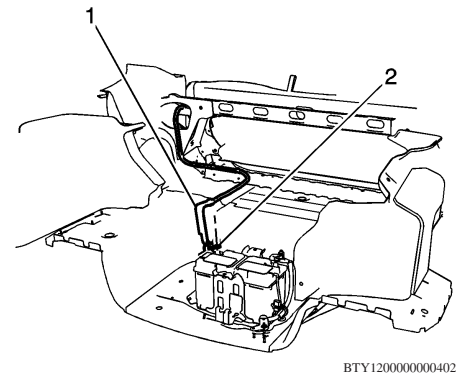

Fig. 2 Battery positive cable removal
7. Loosen battery positive cable terminal nut (2), **Fig. 2**.
9. Disconnect battery positive cable (1) from battery, **Fig. 2**.
6. Connect battery positive cable (1) to battery, **Fig. 2**. **Torque** battery cable nut to 49 inch lbs.